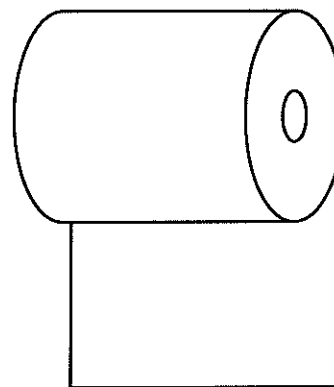

Fig. 11-2
b) Cut the end of the printer paper so that it is straight (Fig.11-2).